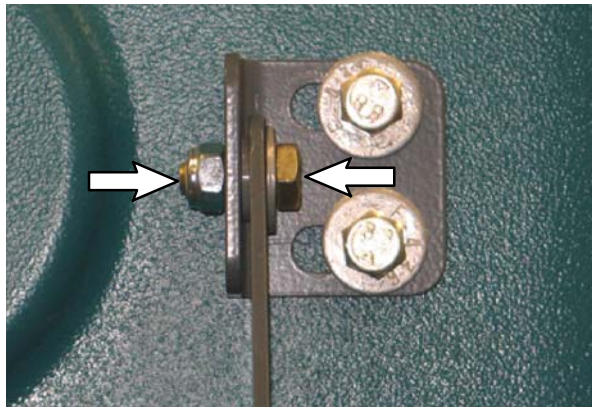

FIG. 55
70. Use a hex screw (58), two flat washers (19), nylon flat washer (21), and hex nut (60) to install the prop rod (57) onto the top cover bracket (56). Do not completely tighten hardware. Hardware is tightened during later adjustment. (Fig. 55)